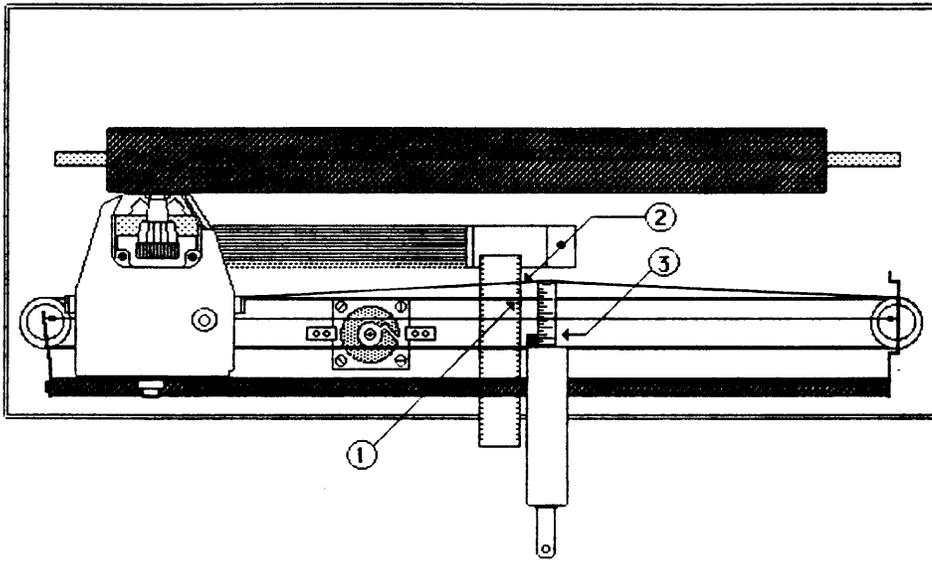

FIGURE 9
13. With the carrier pushed all the way to the left, lay a ruler under the carrier wire (see Figure 9, #1) and visually mark the point where the rear carrier wire crosses the ruler.
14. Push the rear carrier wire at its center until it has been pushed 3/8 inch away from its original position (see Figure 9, #2), check the tension gauge (see Figure 9, #3). It should read 1 pound (lb.). If it doesn't, adjust the screw of the tension arm and recheck.